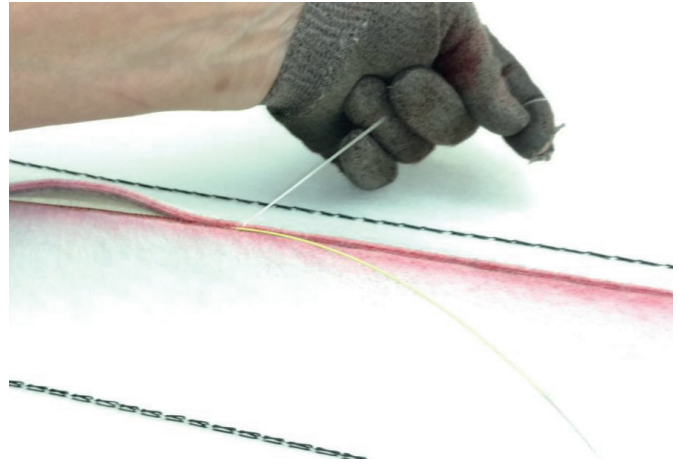

FIGURE 5.
- Holding the pintle yarn back and out of the way, insert the lead wire tip into the next available top loop (figure 5 and 6)